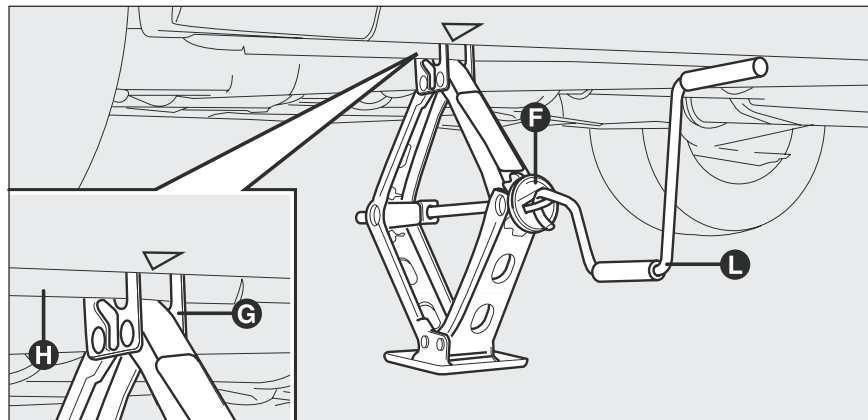

fig. 4
- operate the device **F-fig. 4** to extend the jack until the top of the jack **G-fig. 4** fits correctly into catch **H-fig. 4**;
- fit the handle **L-fig. 4** to operate the jack and lift the car until the wheel to be changed is several centimetres off the ground;
- ❑ turn the jack handle **L**-fig. 4 to lower the car and remove the jack;